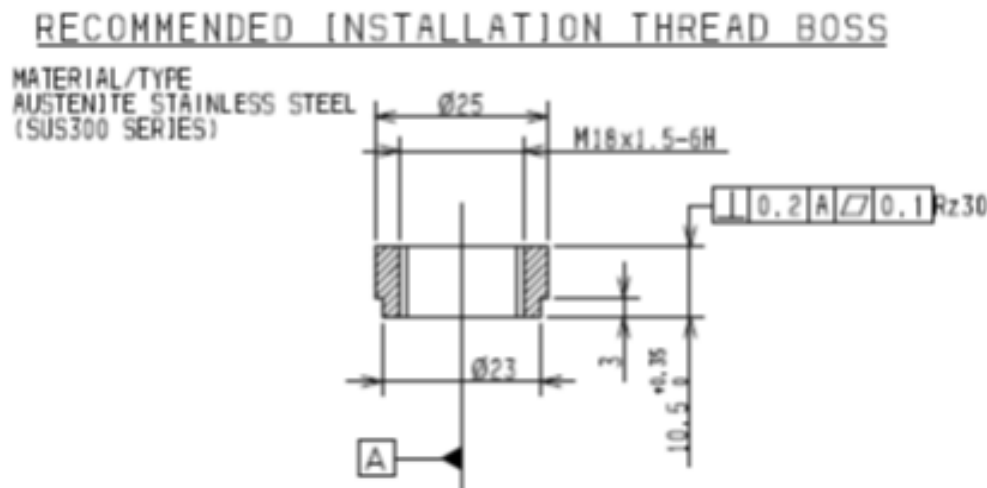

Figure 2-8. StableSense HEGO Exhaust Mounting Boss
- A thread boss should be used to provide a flush gasket contact surface. An example of an approved thread boss is a 25 mm diameter (1 inch) and 6 – 12 mm (1/4 – 1/2 inch) deep stainless steel donut with M18 thread inside. See Figure 2-8.